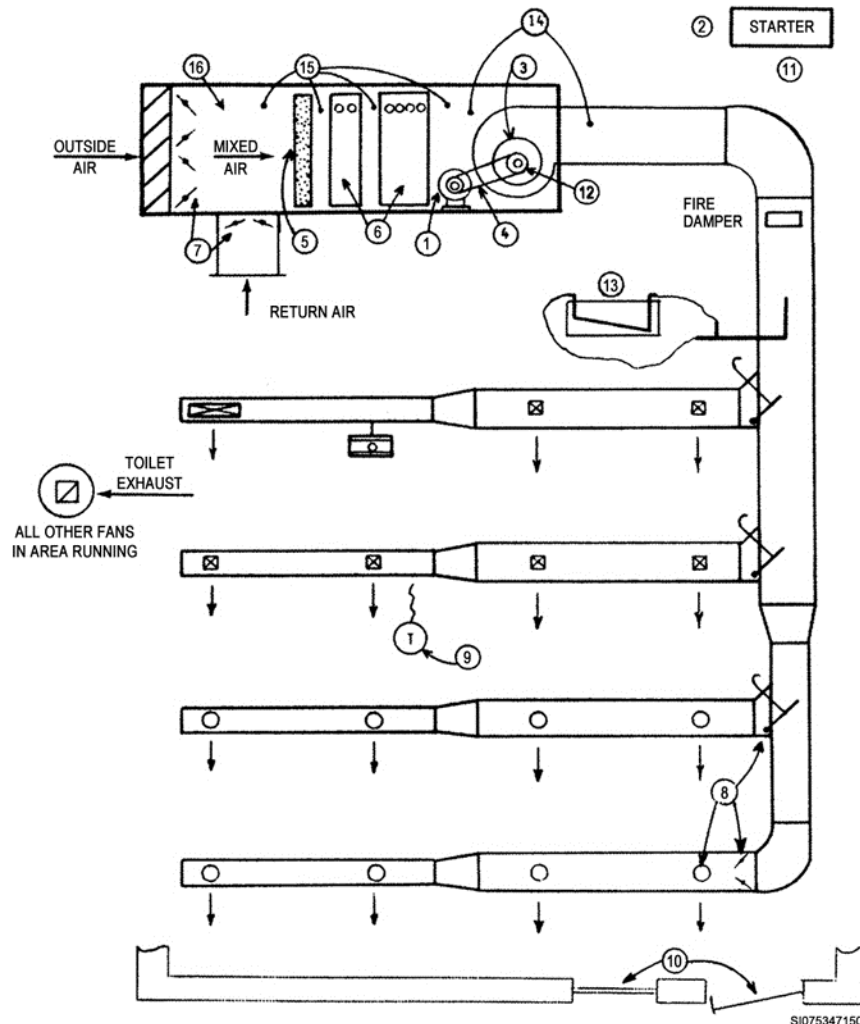

Figure 2-28. Equipment checkout.
The first part of actual field testing and balancing consists of checking out and setting up equipment (fig. 2-28). You must do this very critical part of the procedure before the actual outlet balancing. The purpose of the equipment checkout is to ensure that the equipment operates and performs properly, for protection of the equipment and safety of personnel, and to set it up for testing conditions. It is also vital that the correct total amount of air and pressure be at the fan before balancing proceeds. We cover the basic procedures for checking out equipment, each separately, in sequence in the following discussion.
Since the weakest link in the system is the motor, it is imperative that it be protected. Check the motor data plate (fig. 2-28, item 1) first for maximum amp load, voltage, phase, rpm, service factor, and other data. In order to take these measurements you will need a clamp-on ammeter and multimeter if you the ammeter doesn't have leads. Also you need an rpm measurement device. Record and compare with the design requirements written on the equipment sheets. If there are discrepancies in the voltage, phase, or rpm, reconcile them.
Next, go to the starter and check that there are thermal overloads (fig. 2-28, item 2) installed. Sometimes, the electrician has forgotten or hasn't gotten to them yet, or they are lying in the bottom of the box. In a three-phase system, there must be three overloads, one for each line. If the thermal overloads are not installed, do *not* test the system until they are installed. This means, you need to check with the electricians and check your shop stock. If you can't find any on base, then you need to order the overloads.
Inspect the fan wheel (fig. 2-28, item 3) next. Is it the correct type and size? On centrifugals it could be one of four basic types—backward inclined, airfoil, forward curve, or paddle wheel. Is it installed to rotate in the right direction? Sometimes the factory installs a fan wheel backwards in a fan, or if the fan is knocked down and assembled on the job site, workers frequently install it backwards.
Inspect the drives (fig. 2-28, item 4). Is the belt tension correct? On multibelted drives, is the tension the same on each belt? Unequal tension could indicate that the belts are of different lengths and are not a matched set. Is the alignment correct? Cockeyed belts wear out very quickly and do not efficiently transmit horsepower. Catastrophes have occurred when new or remodeled systems were first turned on. Ducts have burst apart or collapsed faster than you could whip your hand back to the starter.
Inspect the filters (fig. 2-28, item 5) to see that they are installed and clean. On new jobs, if the installed filters are a temporary construction set, replace them with the permanent set. If they are a permanent set, make sure that they are not excessively dirty or clogged. This could involve buying multiple filters just so you can balance the system.
Inspect the cooling and heating coils (fig. 2-28, item 6). In built-up housings, are they properly blanked off all around the tops, bottoms, and sides so that air does not bypass the coil? Are there large gaps where the piping connections protrude through the side of the housing? If so, seal these properly.
The next step in the equipment checkout is to check and set the automatic dampers (fig. 2-28, item 7) in their balancing positions. There are two approaches to setting outside-air, return-air, and exhaust control dampers.
After the central equipment is set up, go through the spaces served by the system and shine a flashlight through all outlets (fig. 2-28, item 8) to make sure that all of the dampers are 100 percent open before you turn on the system. Also, check that splitter dampers are positioned at roughly a 30 to 45° angle and that other manual volume dampers are 100 percent open.
Check the thermostat settings (fig. 2-28, item 9) in low-pressure, constant-volume, single-zone systems. In the winter, leave the thermostat on its normal setting for winter and summer conditions. In the summer, if the cooling is in operation, set the thermostat to maximum cooling, usually 55°F, so that the coil is wetted and the system is balanced under its maximum load.
Ensure that all windows and doors (fig. 2-28, item 10) are closed in their normal position before you turn on the equipment. Do this to prevent possible abnormal positive or negative pressures that may throw the balance seriously off.
Since the motor can be burned up so quickly, the first thing to do after you start the equipment is to check the amp (current) draw to make sure that it is not exceeding maximum motor amps and the voltage to confirm that it is in the correct range (fig. 2-28, item 11). Normally this is done with a clamp-on meter at the starter. Clamp the jaws around each wire, *one at a time*, and read the amps. Then, use the probes to read voltages across the terminals.
Immediately after the amp-volt reading, check the fan rpm reading (fig. 2-28, item 12) to see that it is approximately as per the design. Use your tachometer as described in the manufacturer's literature. If the rpm of the fan is grossly higher or lower than design, do the following:
Now that you already know two characteristics of the fan performance—amp (current) draw and rpm—check a third critical aspect on low-pressure systems at this point. Check the total airflow (fig. 2-28, item 13) at the fan to see if you have about the correct amount of air before you balance the outlets. It is generally best to always do this on larger systems with many outlets.
If you are taking a pitot-tube traverse of the fan discharge duct, you can also take a discharge static pressure reading (fig. 2-28, item 14) at the same time. Also, with the manometer still set up for the discharge reading, you can stretch the tubing and pitot tube over to take an intake reading of the fan without making another setup. If you are not taking a pitot-tube traverse, use a magnehelic gauge to read the intake and discharge pressures.